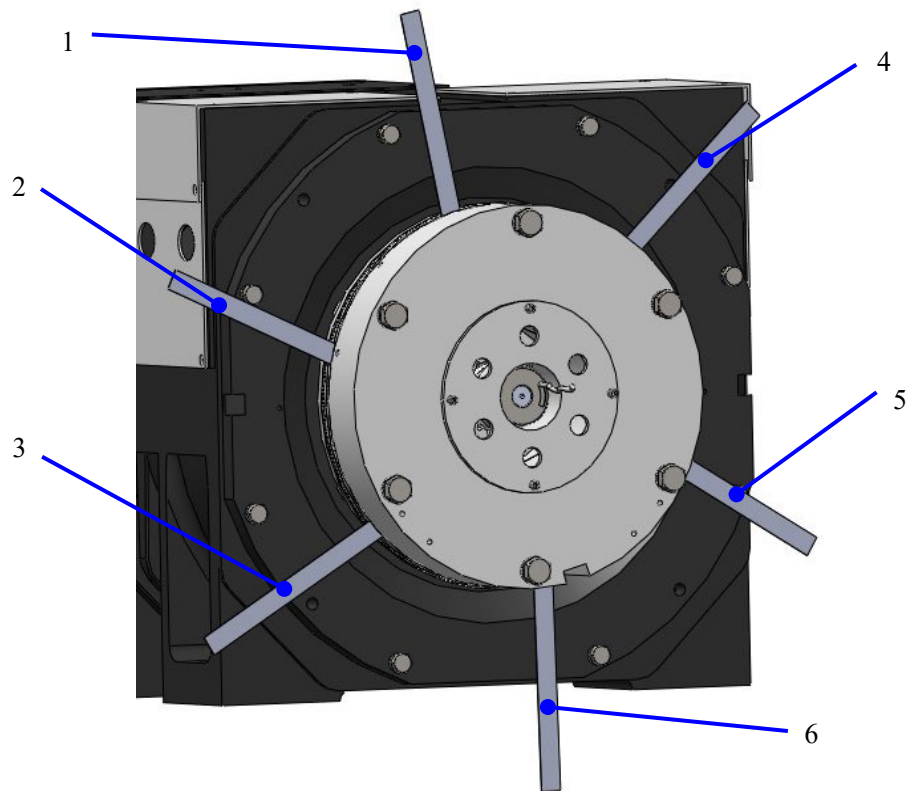

Figure 11 Normal Brake Stroke Check locations
Step 2: Slightly loosen all of the M16x165 bolts ½ turn. Use the torque wrench set to 140 ft-lbs (190Nm) and re-torque all six M16x165 bolts (tighten the bolts in a STAR pattern). See Figure 11. This ensures an accurate starting point with all bolts at the same torque prior to checking any brake gaps. **DO THE GAP CHECK ONLY WHEN THE BOLTS ARE AT 140 FT-LBS TORQUE.** Now check **Gap “B”** at the six points referenced in Figure 11 with the largest feeler gauge that will fit. Measure to the left of each bolt. Note what and where the biggest gap is in reference to all six M16 bolts. If adjustment is necessary, the bolt with the largest measured gap will serve as your starting point for the adjustment procedure.